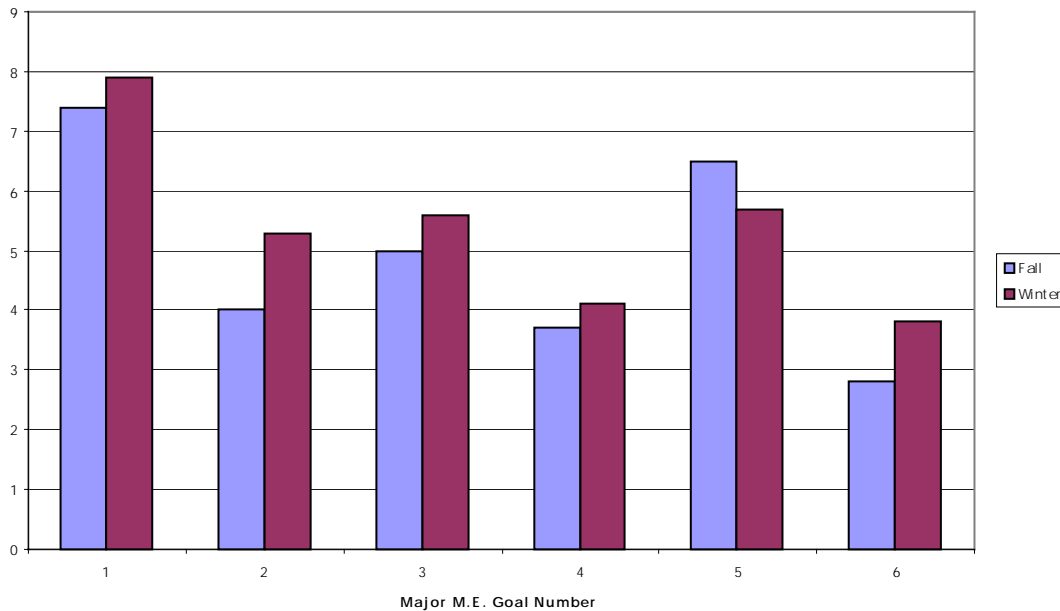

Figure 5. Coverage as shown by the "Three Year Matrix" for Fall and Winter 1999-2000, for the Six Major Categories.
In addition to this presentation, it is perhaps more useful to look at the coverage based only on the six goals. As a reminder these six goals are: (1) Use Problem Solving in an Effective Manner, (2) Design Effectively, (3) Continue to Learn and Educate Themselves, (4) Communicate Effectively, (5) Work Responsibly, and (6) Work Effectively. This is shown in Figure 5.